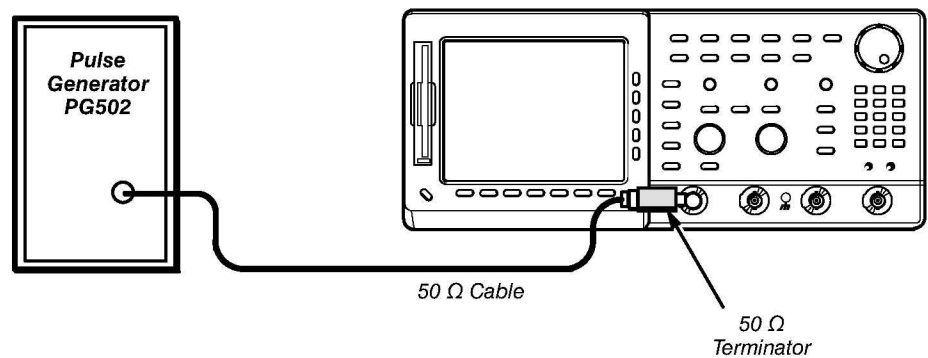

Figure 4-38: PG502 Setup for Sync Duty Cycle Test
- Connect the pulse generator (PG502) through a 50 Ω cable and a 50 Ω terminator to the oscilloscope's CH1 input (see Figure 4-38).